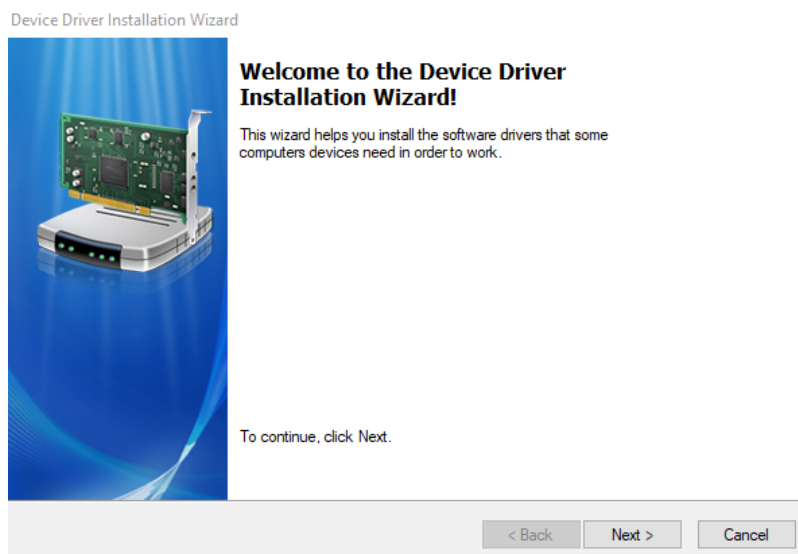

Figure 3.28. Device Driver Installation Wizard
7. The device driver installation wizard opens (Figure 3.28). Click **Next**.